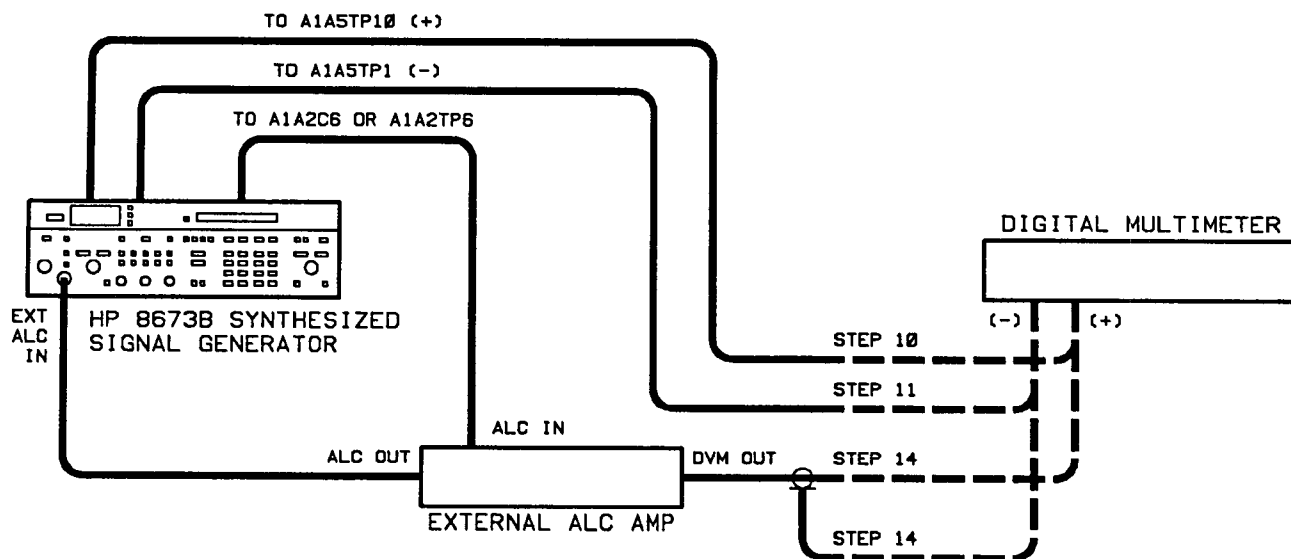

Figure 5-30. External System Mode ALC Adjustment Test Setup
7. Connect the equipment as shown in figure 5-30.